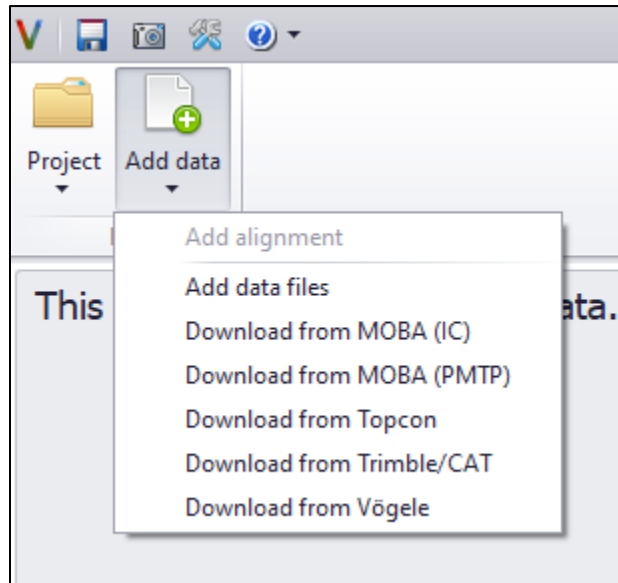

Figure 2. Add data button.
2. Select the **Add Data** button, as shown in Figure 2. The available options include:
- Download from MOBA (IC).